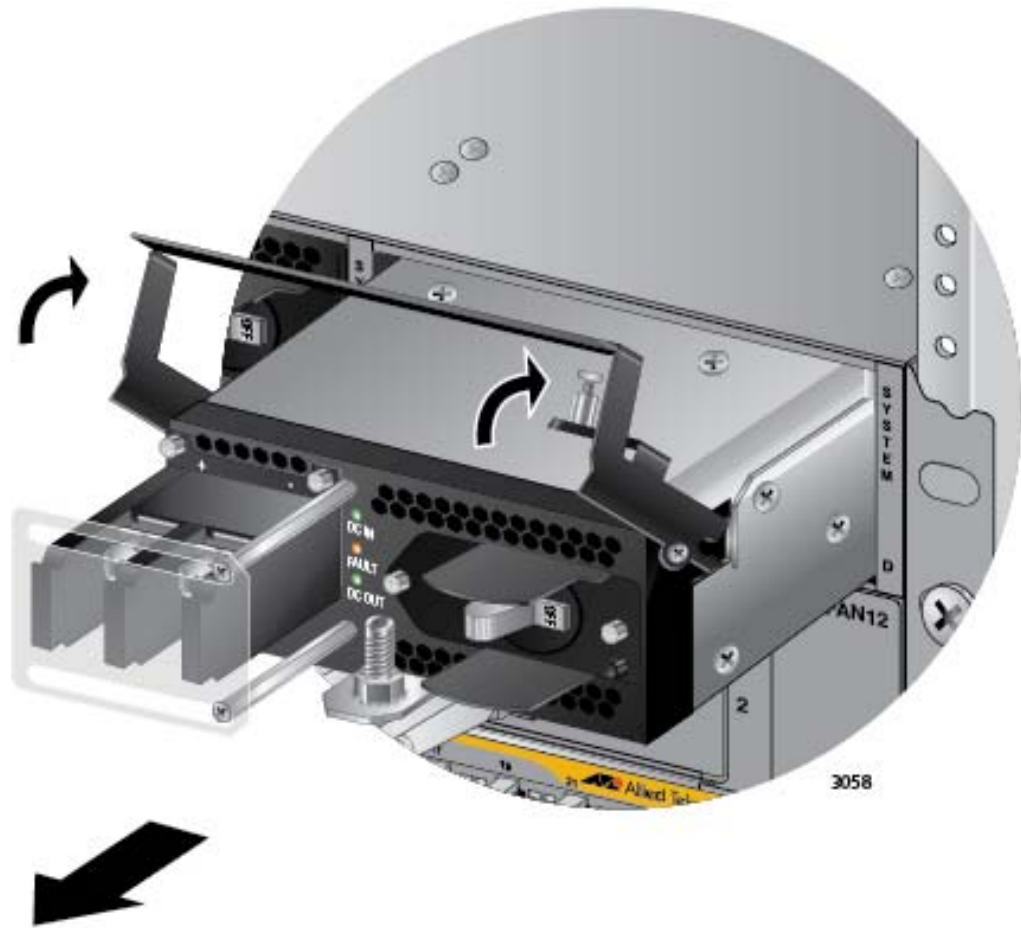

Figure 142. Lifting the Locking Handle and Removing the Power Supply
11. Lift the locking handle and slide the power supply from the chassis. Refer to Figure 142 on page 226.